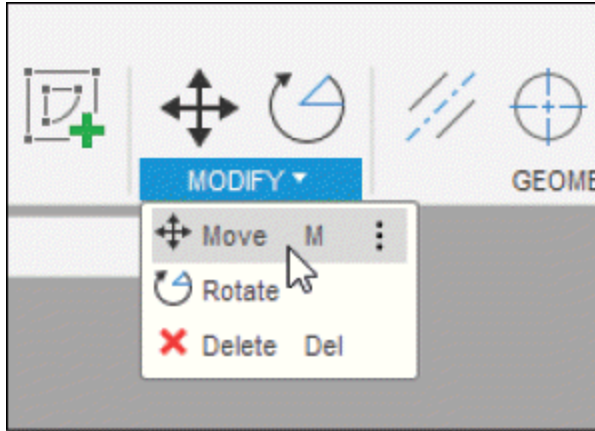
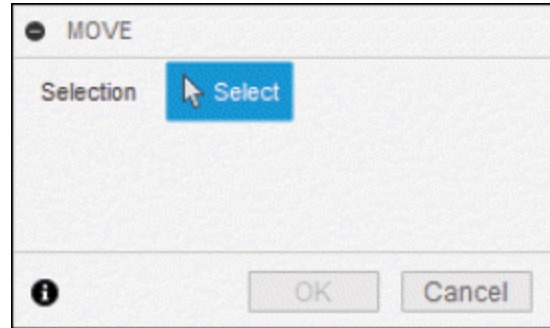

Figure-32. Move tool
Figure-33. MOVE dialog box
- Click on the **Move** tool from **MODIFY** drop-down; refer to Figure-32. The **MOVE** dialog box will be displayed; refer to Figure-33.